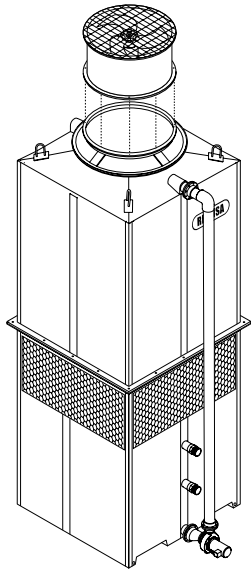
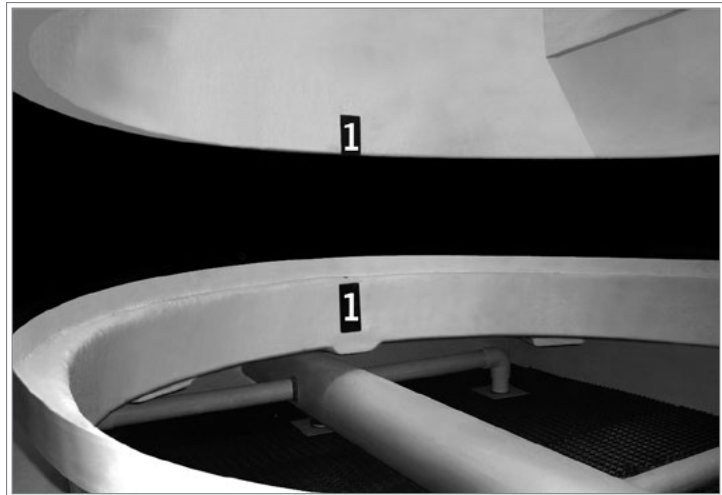

Figure A-39: Fan duct installation in a fan adaptor
Figure A-40: Fan duct alignment
C. Then place the Fan Duct on top of the Fan Adaptor (see Figure A-39); make sure the bolt holes and the marks inside the Fan Duct are aligned (see Figure A-40). Then secure it using the stainless steel nut and bolt sets supplied by REYMSA.